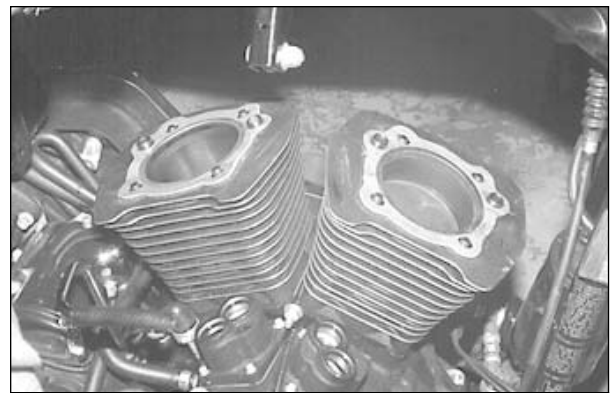
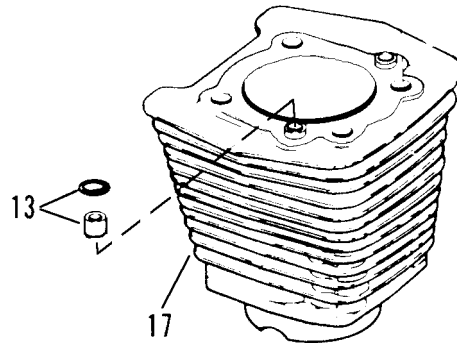

Figure 6 - Cleaning Gasket Surfaces
Figure 7 - Cylinder O-Rings and Inserts
1. Be sure the gasket surfaces and stud holes are clean and dry (See Figure 6). Place new O-rings (13) on the cylinders and position the head gaskets on the inserts (13) (See Figure 7).